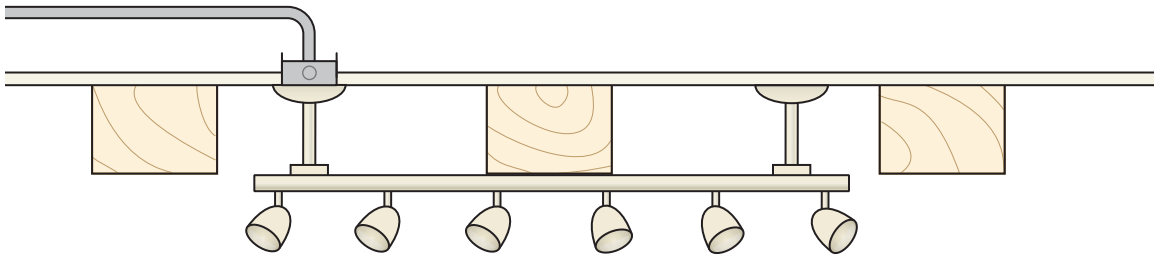

FIGURE 13-5 Track lighting mounted on the bottom of a wood beam. The supply wires to the track assembly are fed through the pendant. (Delmar/Cengage Learning)
1. Install pendant kit assemblies that will allow the track to hang below the beam, as in Figure 13-5.